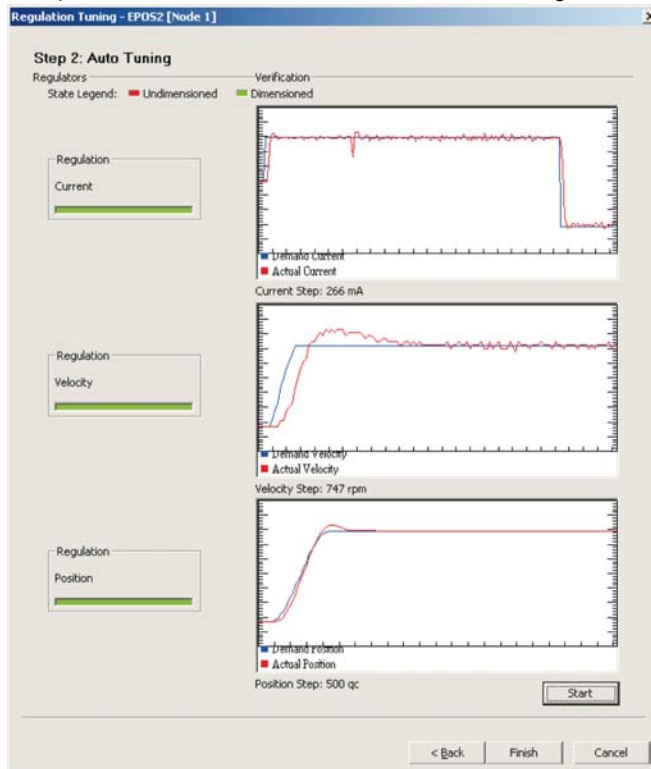

Figure 3-34 End of Auto Tuning
- Auto Tuning is complete as all three status bars changed to green (→Figure 3-34).